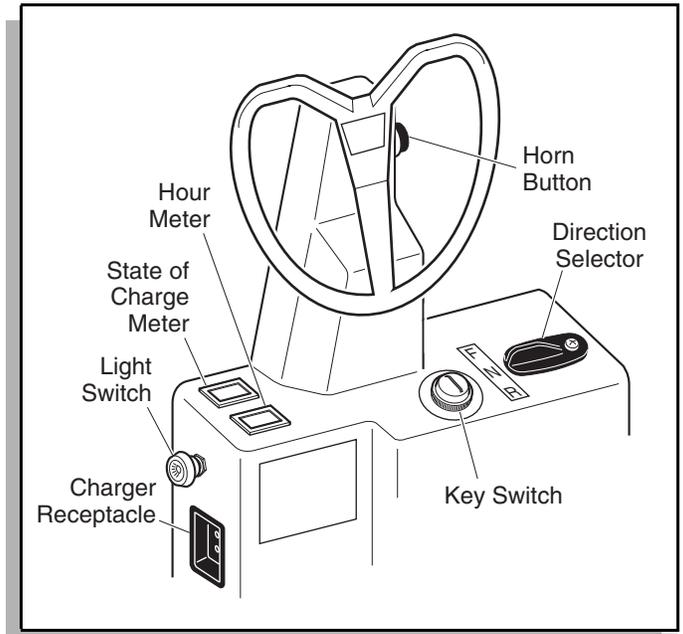

Fig. 5 Controls and Meters
A dedicated circuit is required for the charger. Refer to label on side of charger for appropriate circuit protection. The charger may remain plugged in to the AC outlet. To charge the vehicle, refer to the instruction labels on the charger. Insert the DC plug completely into the vehicle receptacle. The receptacle is located on the side of the instrument panel to the left of the steering wheel (Ref Fig. 5 on page 3). After inserting the polarized DC plug, wait a
Located on the instrument panel, the key switch enables the basic electrical system of the vehicle to be turned on and off by turning the key (Ref Fig. 5 on page 3).
The direction selector is located on the instrument panel (Ref Fig. 5 on page 3). This lever permits the selection of forward (F), neutral (N) or reverse (R). It should be left in (N) when the vehicle is unattended.
Located on the instrument panel, the state of charge meter indicates the amount of usable power in the batteries (Ref Fig. 5 on page 3).
Located on the instrument panel, the hour meter indicates total hours of operation (Ref Fig. 5 on page 3).
The horn button is located behind the steering wheel on the right side of the instrument panel (Ref Fig. 5 on page 3). Activate horn by pressing the button.
The light switch is located on the left side of the instrument panel and operates independent of the key switch (Ref Fig. 5 on page 3). Pull the switch out to turn the lights on.